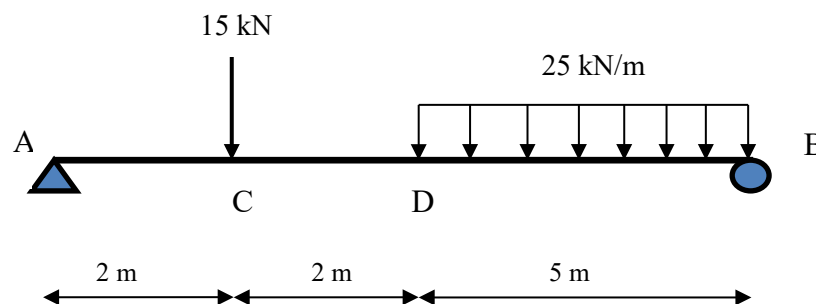

Figure B4(a) / Rajah B4(a)
- (a) Show bending moment equation for beam shown in Figure B4(a) below by using the Macaulay's Method.